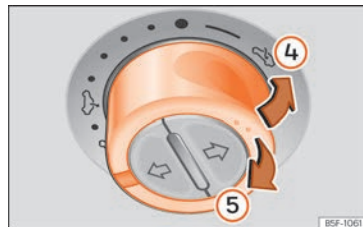

Fig. 110 On the interior roof lining: press the switch and pull on it to raise and lower the roof.
- Lift: Push the switch to position »» Fig. 110 ④. For an intermediate position, hold down the switch until you reach the desired position.
- Lower: pull the switch to position »» Fig. 110 ⑤. For an intermediate position, hold down the switch until you reach the desired position.
- *Glass roof*: within approx. 5 seconds of the activation of the anti-trap function, keep the control pulled backwards »» Fig. 110 (arrow ⑤) until the roof is completely closed.